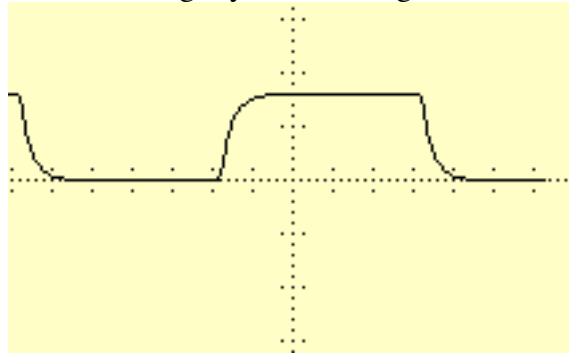

Figure 3. Oscilloscope display of RC response to square wave.
- a. Set the oscilloscope to display the waveform $v_c(t)$ produced by this circuit. Be sure that the probe has been calibrated before taking measurements. Also, make sure that the probe is set to X10 (set the switch on the probe), and the scope is set to receive an X10 signal (Press the channel select button above the scope input being used, and make sure the probe is set at 10). The display should be similar to a square wave but with slightly rounded edges as shown in Figure 3.